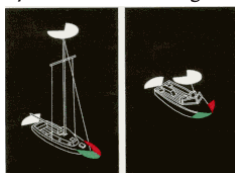

Figure 1—
Motorboats less than 20 meters (65.62 feet) shall exhibit navigation lights as shown in Figure 1. (Note: Two masthead lights are optional for boats under 50 meters. Boats over 50 meters [164 feet] will display two masthead lights.)
Motorboats of less than 12 meters (39 feet, 4 inches) in length, may show the lights in either Figure 1 or Figure 2. Boats of less than 7 meters (23 feet) whose maximum speed cannot exceed seven (7) knots may exhibit an all-around white light, and, if practicable, sidelights instead of the lights prescribed above, in international waters only.